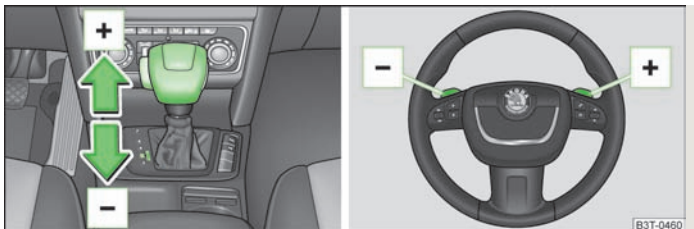

Fig. 127 Selector lever and multifunction steering wheel
- Press the selector lever forwards » Fig. 127 **+**.
- Pull the right rocker switch **+** » Fig. 127 towards the multifunction steering wheel.
- Pull the left rocker switch **-** » Fig. 127 towards the multifunction steering wheel.